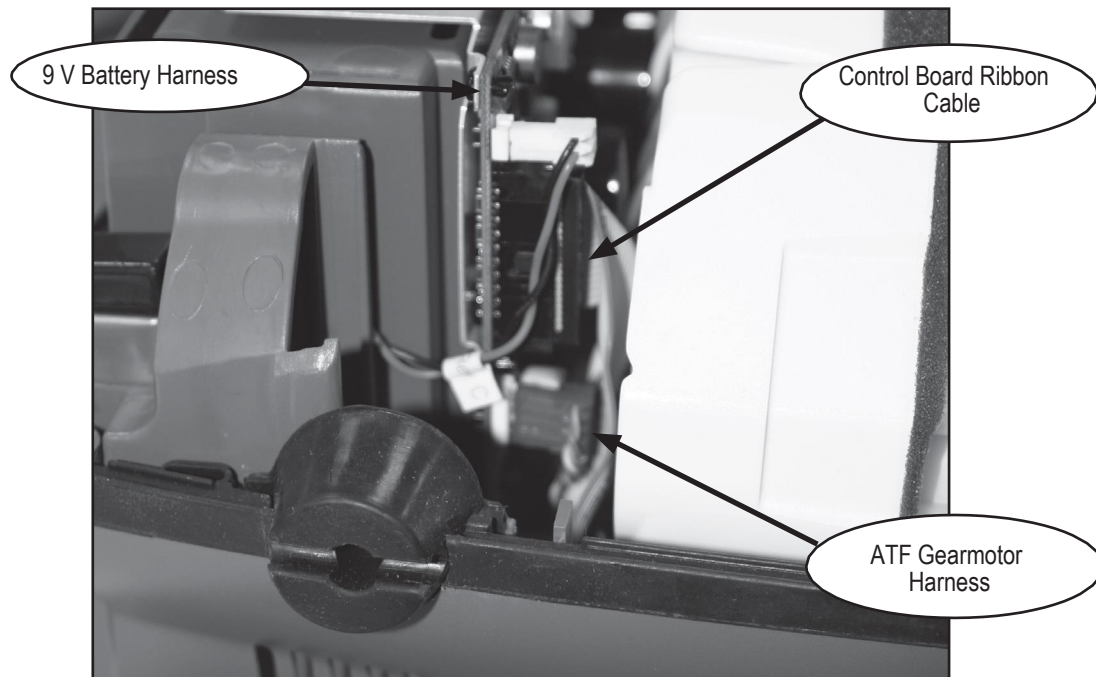

Fig 50: Wire harnesses and control board ribbon
- 1.6 Pull the Power Manager pcb 1”out of the case. Gently push the compressor box away from the Power Manager pcb about 1/8”. Slide the board and the cabling out from under the edge of the compressor for better access. Disconnect the two wire harnesses (9V batt & ATF harness) and the Control board ribbon cable shown in Fig 50. Remove the Power Manager pcb.